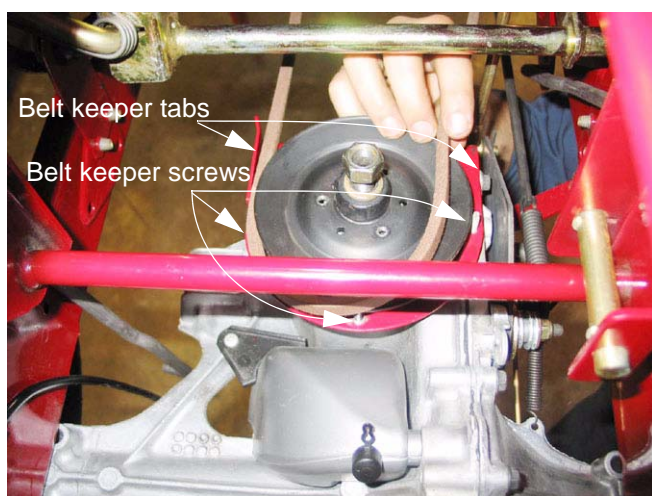

Figure 6.19
10. Loosen the pulley using a 3/4" wrench, and lift the pulley far enough to slip the belt by the belt keeper tabs and screws. See Figure 6.19.